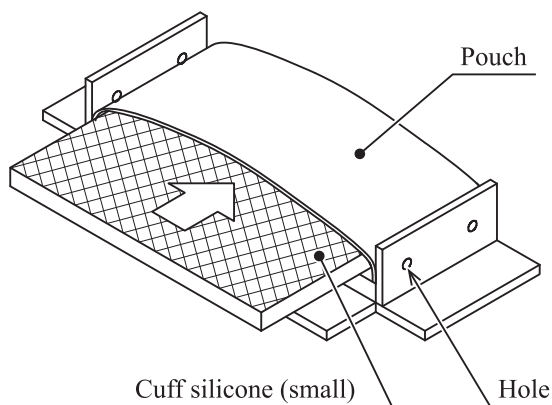

Figure-3
- ④ Insert the cuff silicone (small) into the pouch of the double felt pad (small). (Figure-3)